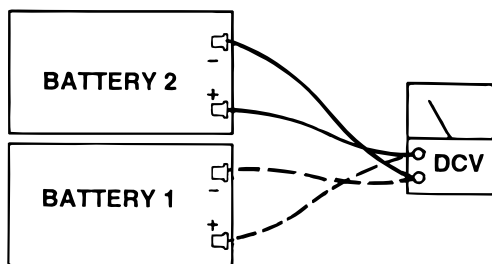

Figure 6-5.
4. Continue to press the TABLE UP button on the pendant control so that the pump motor continues to run and using a DC voltmeter, check the voltage drop of each battery individually. See figure 6-5.